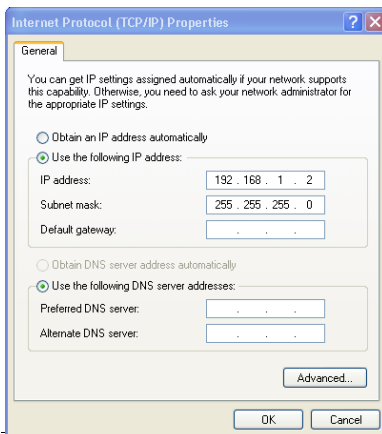

Figure 5: Internet Protocol (TCP/IP) Properties Window
6. Select **Use the following IP Address**, and fill in the details as shown in Figure 5. You can use any IP address in the range 192.168.1.1 to 192.168.1.255 (excluding 192.168.1.39) that is provided by your IT department.